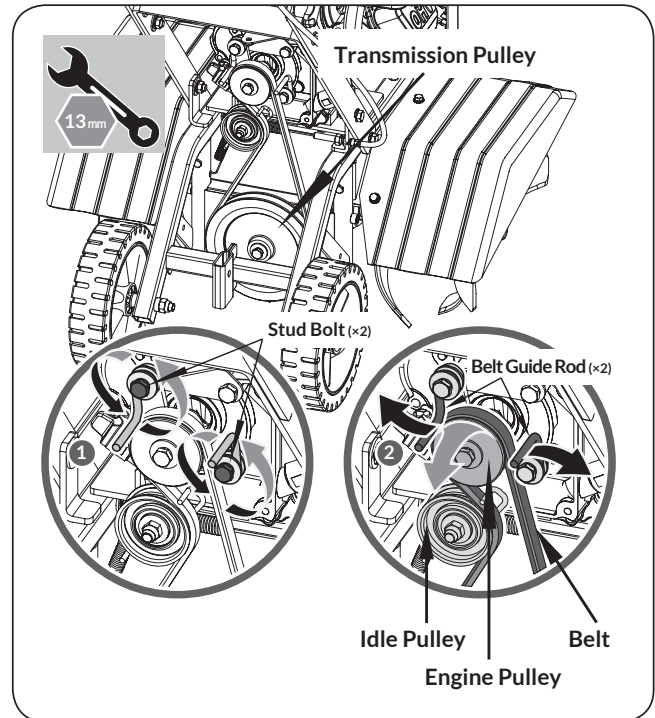

Figure 13b
2. Loosen the two stud bolts that fix both belt guide rods. (See **Figure 13b, Illustration 1**)
3. Remove the belt from both the engine pulley and transmission pulley. (See **Figure 13b, Illustration 2**)